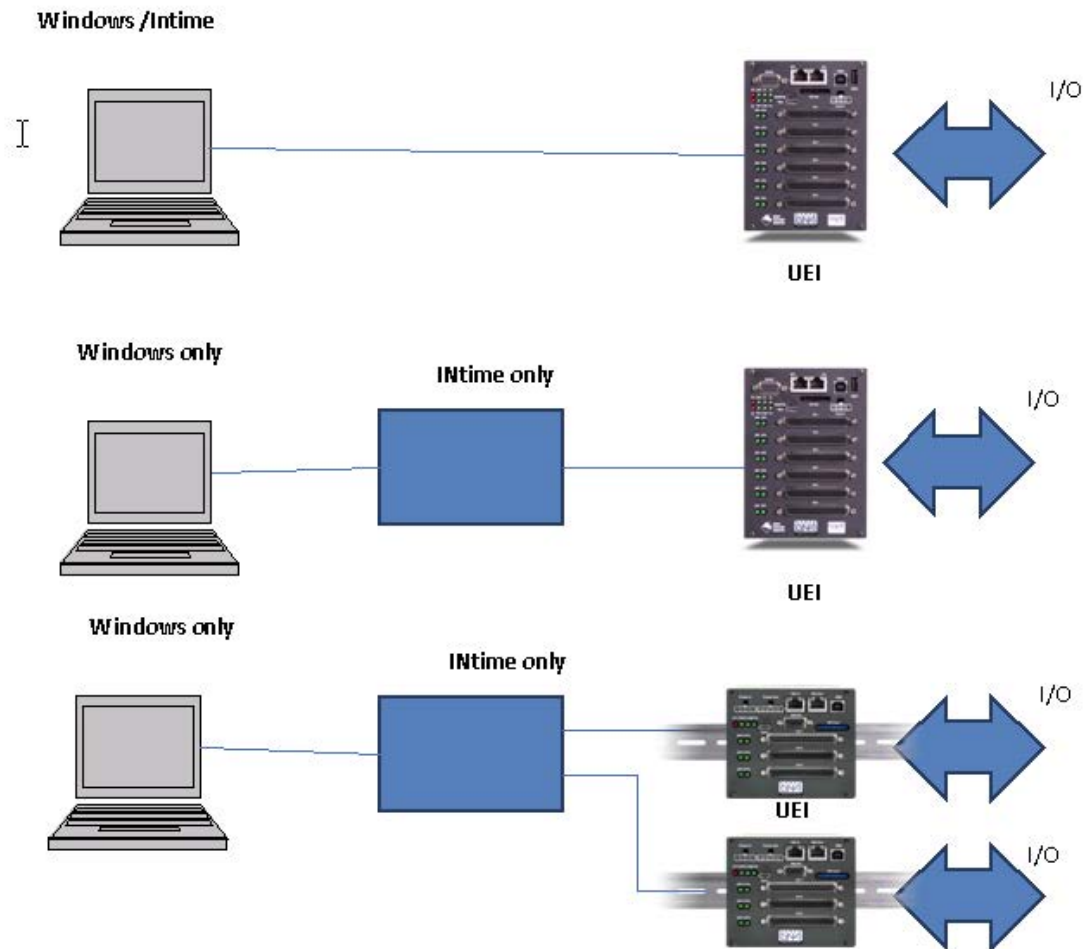

Figure 6 : Some possible INtime / PowerDNA configurations
- o On a multicore CPU, INtime can run its IP stack on each core, and inter- face to the “world” via another Ethernet port. This way you can work with several PowerDNA boxes – each connected to another Ethernet connec- tion. The interaction of the software between cores can be done up to tens of Megabytes per second via Virtual Ethernet Ports, or choose INtime Message Queue or shared memory connection if the speed approaches hundreds of megabytes per seconds. Some of the possible configurations are shown in Figure 6.